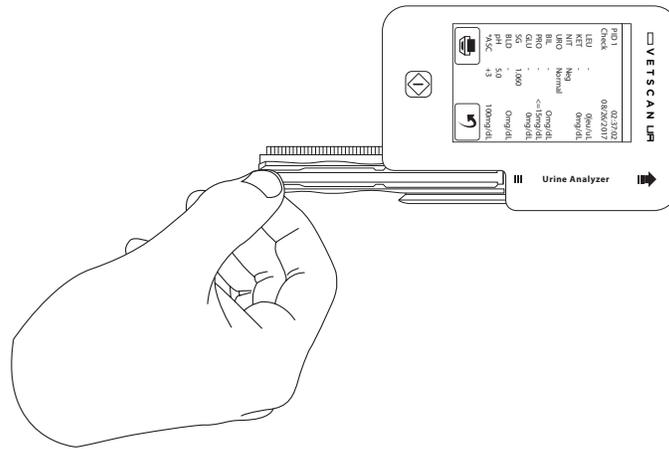

Fig. 17A
- To clean the Strip Tray, first power on the UA analyzer. Remove the Strip Tray by grasping the upper right side of the tray (Fig. 17A). Lift up and gently pull Strip Tray (but not the Tray Carriage) in the direction shown (Fig. 17B). The Strip Tray should lift off easily.